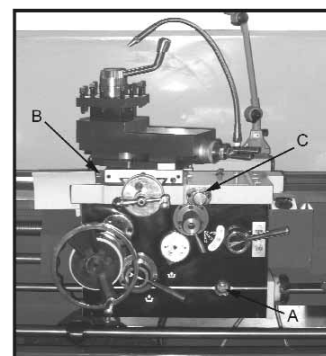

Fig. 5
- Apron** - Oil must be between indicator marks in the oil sight glass (A, Fig. 5). Top off with Mobil DTE® Oil Heavy Medium. Remove oil plug (B, Fig. 5) on upper right of apron to fill. To drain, remove drain plug on bottom of apron. Drain oil completely and refill after the first three months of operation. Then, change oil in the apron annually. Pull knob (C, Fig. 5) on the one-shot lube system and hold for several seconds to allow oil to fill the pump. When the knob is released, oil will flow through various oil lines to lubricate the ways and cross slide surface. Perform this twice daily or as needed. When the oil level is below the indicator mark, oil must be added.